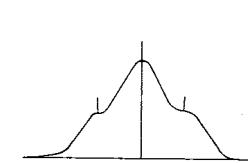

Fig. 5
- (2) Inputting high level signals from the sweep generator, adjust the waveform with T201 until it becomes like that shown in Fig. 5.